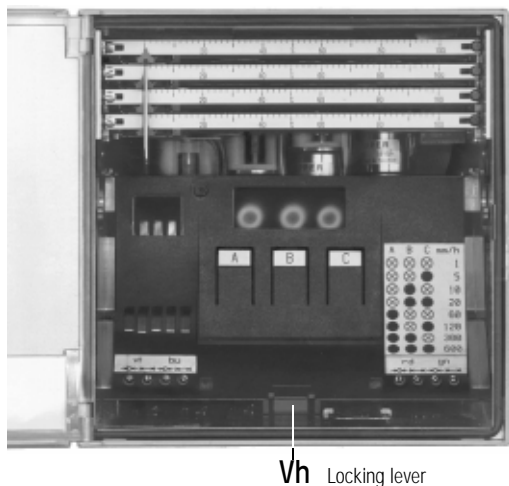

Figure 14
3.1.1 Hardware matching by means of jumpers (see figure 14 and 15)
3. Lift locking lever **Vh** (see figure 14) and withdraw the module simultaneously.